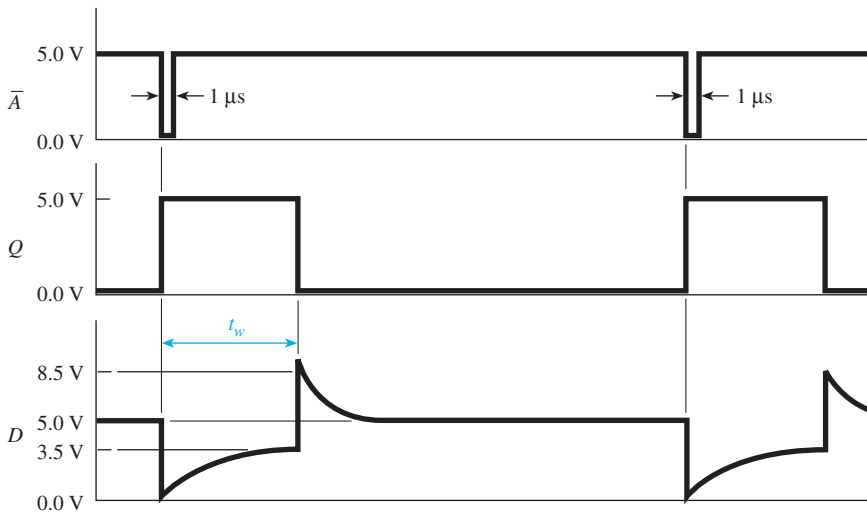

Figure 11 Waveforms for Example 6.
- (a) The waveforms for the multivibrator are shown in Figure 11.